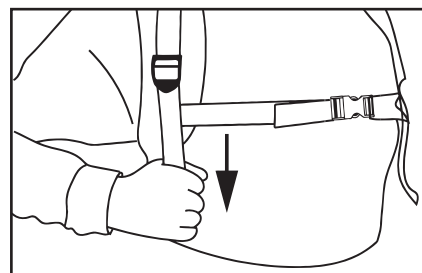

FIGURE 5
6.2 Pull the ends of the backpack straps downward to tighten. **FIGURE 5.**